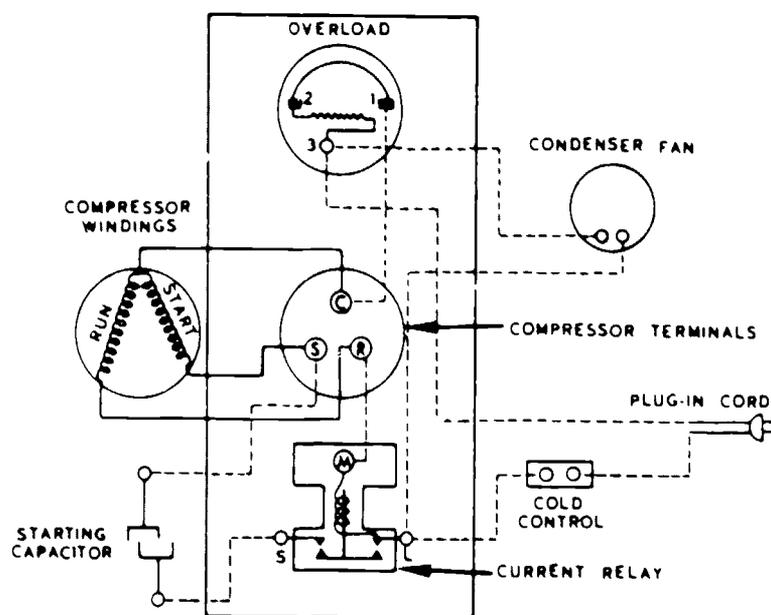

Figure 12. Wiring Diagram (Open Coil Relay)
**Open Coil Relay (Current)** The wiring diagram for this relay is illustrated in figure 12. The dash lines are electrical wiring connections. The solid lines are internal connections between the compressor terminals and motor winding.